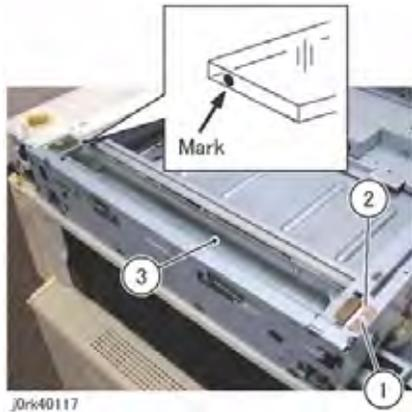

Figure 2 DADF Platen Glass Mark
5. Remove the DADF Platen Glass (Figure 2)